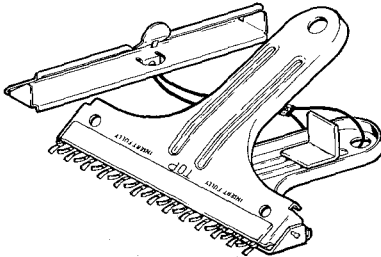

Fig. 4—4053PM Separator Tool
- a. The 4053PM Separator Tool is the only recommended tool for unplugging Super Mate Modules from any other module. See Figure 4.